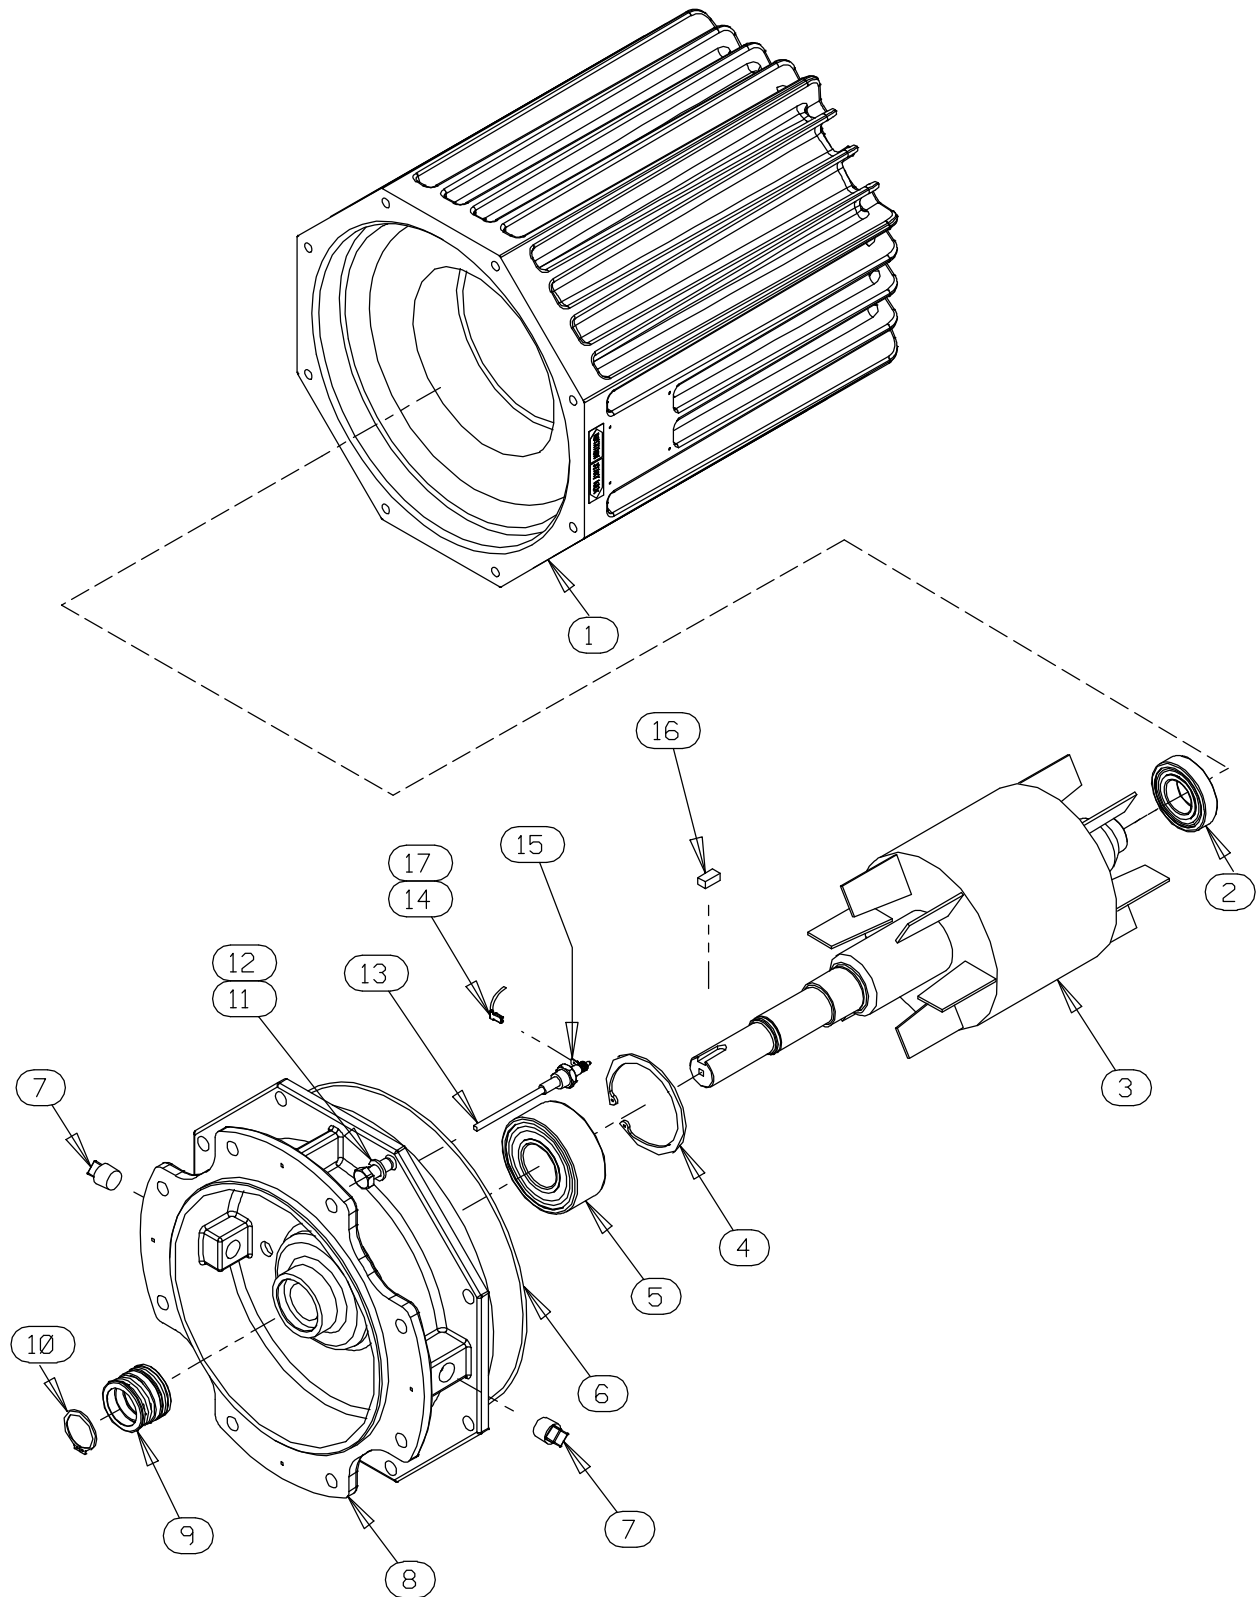

Figure E-2. 47111-785 and -786 Motor Assemblies
Draining Oil From Seal Cavity**(Figure E-2)**
To remove the impeller, use two thin-bladed screwdrivers positioned 180° apart to pry on the back of the impeller and “walk” the impeller off the shaft. Use increasingly larger screwdrivers (or wedges) as necessary. After the impeller comes free of the shaft, retain the impeller key (16, Figure E-2).
An alternate method of removing the stationary element is to remove the screws (23) securing the seal plate (21) to the motor assembly (14). Pry the assembled seal plate and stationary element off the shoulder of the intermediate (8, Figure E-2). Remove the O-ring (10) and press the stationary element and seat out of the seal plate from the back side.
(Figures E-2 and E-3)